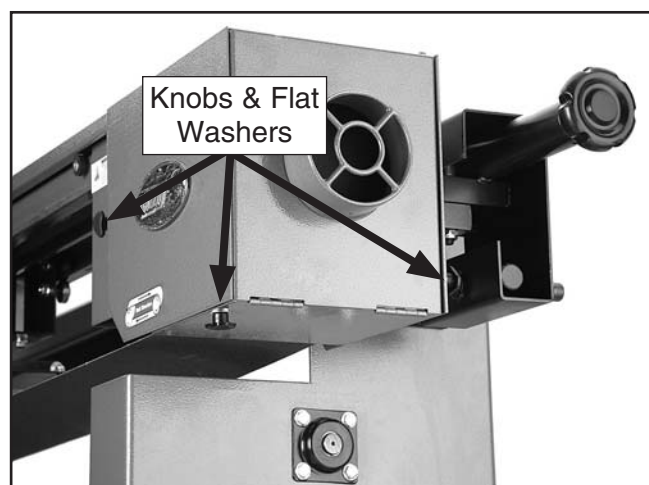

Figure 23. Knob placement.
16. Close the idler wheel cover doors and secure them with (3) $\frac{1}{4}$ "-20 x $\frac{1}{2}$ " knobs and $\frac{1}{4}$ " flat washers (**Figure 23**).